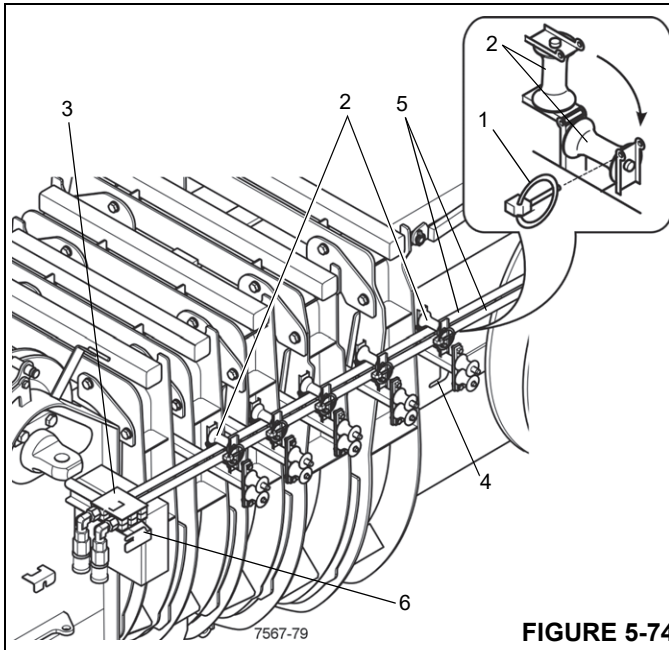

FIGURE 5-74
2. Remove the hinged pins (1, Figure 5-74) and fold up the guide sheaves (2).
3. Remove the strain relief (3) from its main boom mounting bracket (4) and pull the hydraulic hoses (5) towards the boom nose.
4. Hook the strain relief onto the boom nose mounting bracket (6).
5. Fold down the guide sheaves (2) and secure them with the hinged pins (1).